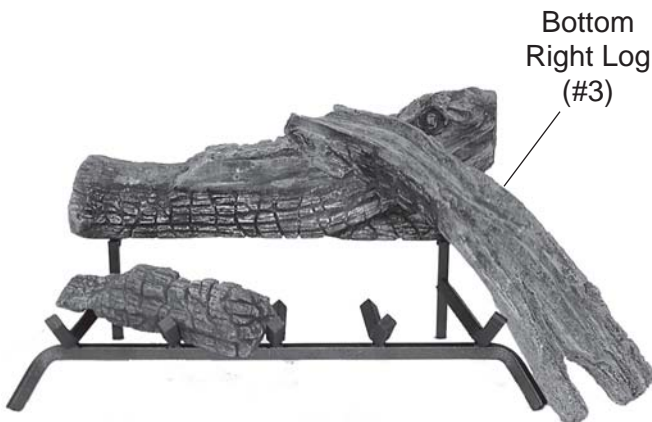

Figure 78 - Placing Bottom Right (#3) Log on Grate
4. Place end of Bottom Right Log #3 on cutout of back log #1. Rest other end of right bottom log to the outside of right grate prong. *See Figure 78.*